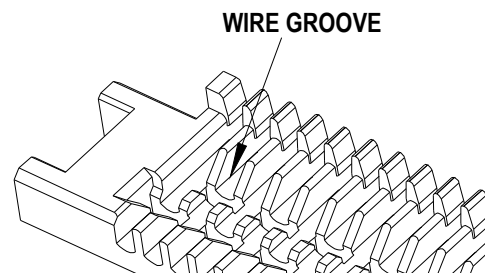

Figure 2-3
2. Load the Wire Cover into the Nest with the wire cover grooves facing up. See Figure 2-3.